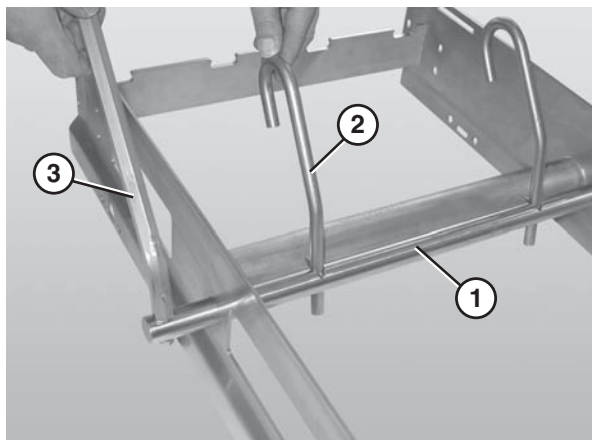

Figure 20
1. Slide the belt lift pivot bar (**Figure 20, item 1**) through the designated holes in the frame. The pins on the pivot bar should be located to the inside of the frame side rails.
2. Attach the lifter bars (**Figure 20, item 2**) to the belt lift pivot bar (**Figure 20, item 1**). Make sure the hooked ends of the lifter bars are facing down when resting against the frame.
3. Attach the lifter handle (**Figure 20, item 3**) to the belt lift pivot rod.